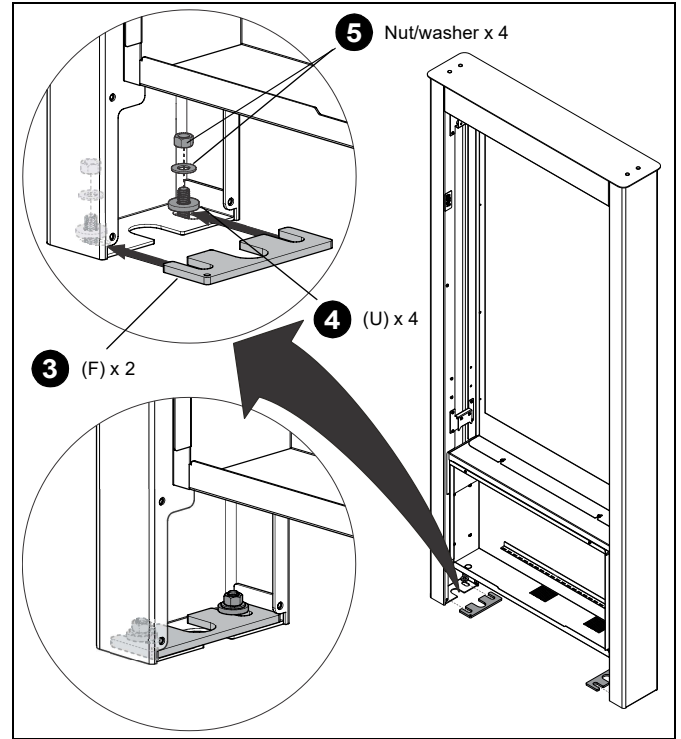

Figure 7
- Slide two washer plates (F) around the exposed bases of the wedge anchors (V). (See Figure 7)
- Insert a flat washer (U) onto the ends of each of the four wedge anchors (V) above the washer plates (F).
- Reinstall the nuts and washers removed from the wedge anchors and tighten nuts to 20 ft-lbs. (See Figure 7)